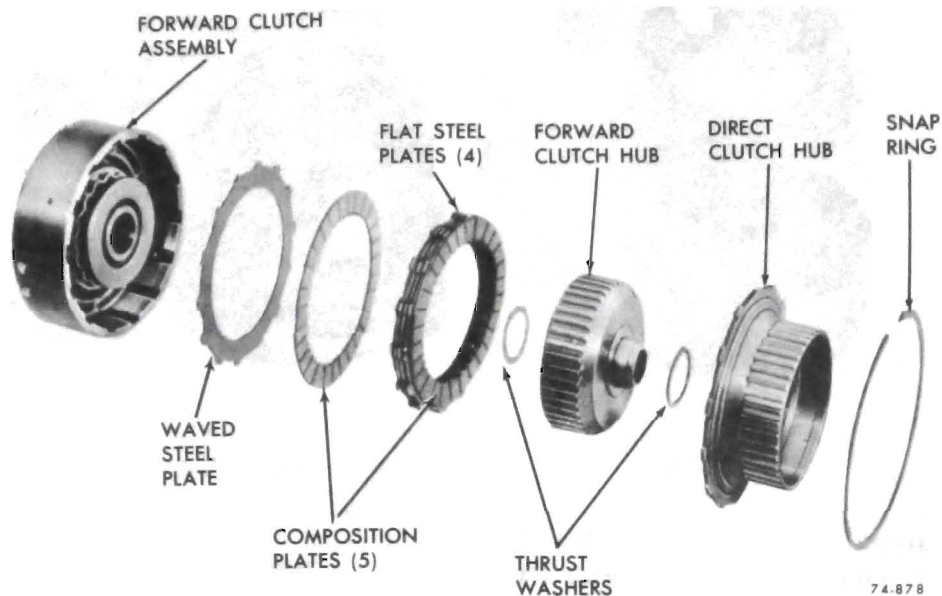

Figure 76-655
1. Inspect drive and driven clutch plates for signs of burning, scoring, or wear. See Figure 76-655.